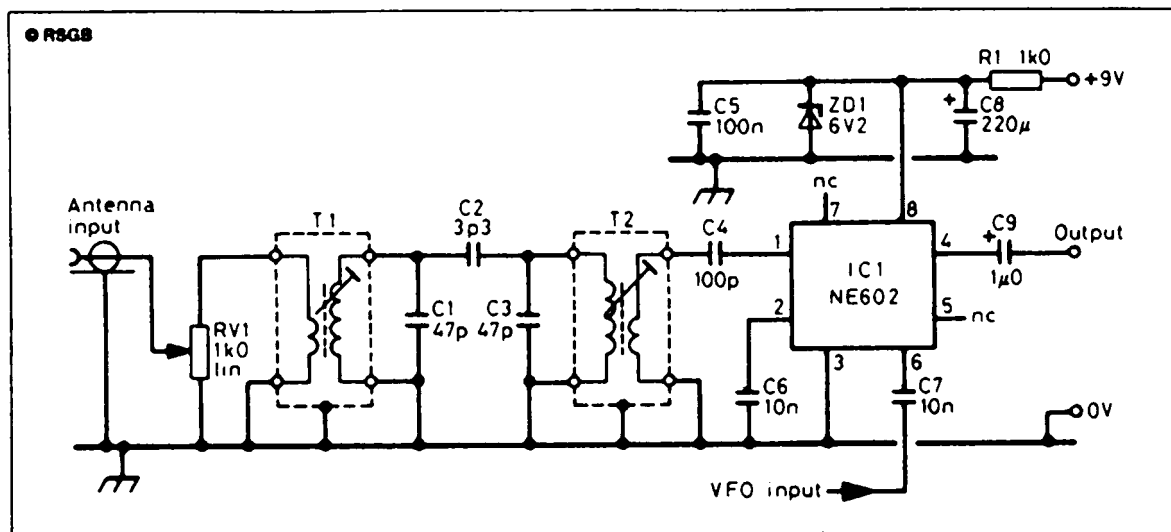

Figure 3 The mixer board has a bandpass filter and stabilised supply
So far, we have an audio-frequency (AF) amplifier and a VFO; the addition of a mixer board gives us a complete direct-conversion receiver for 80 m. The mixer circuit diagram is shown in **Figure 3**. Let's follow the signal path.